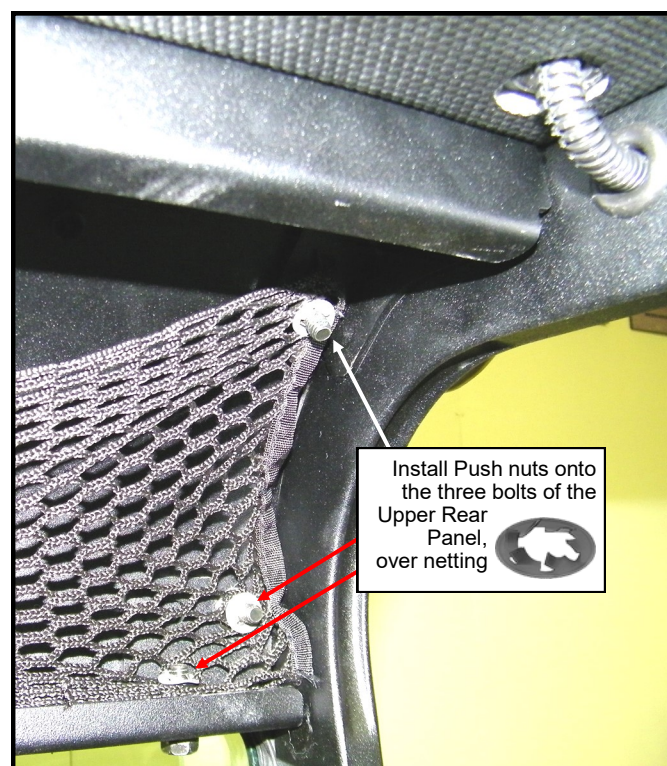

Figure 10.1: Cargo net push nuts
- 10.1 Place one end of the cargo net over the three bolts at one side of the Upper Rear Panel **(Figure 10.1)** and install a Push Nut over each of the bolts and netting.